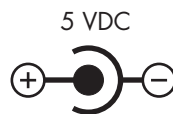

Figure 2. Power connection barrel receptacle 5 VDC diagram
- The power connection to the NTU is a 2.5 mm barrel receptacle with the center conductor positive (see figure 2).